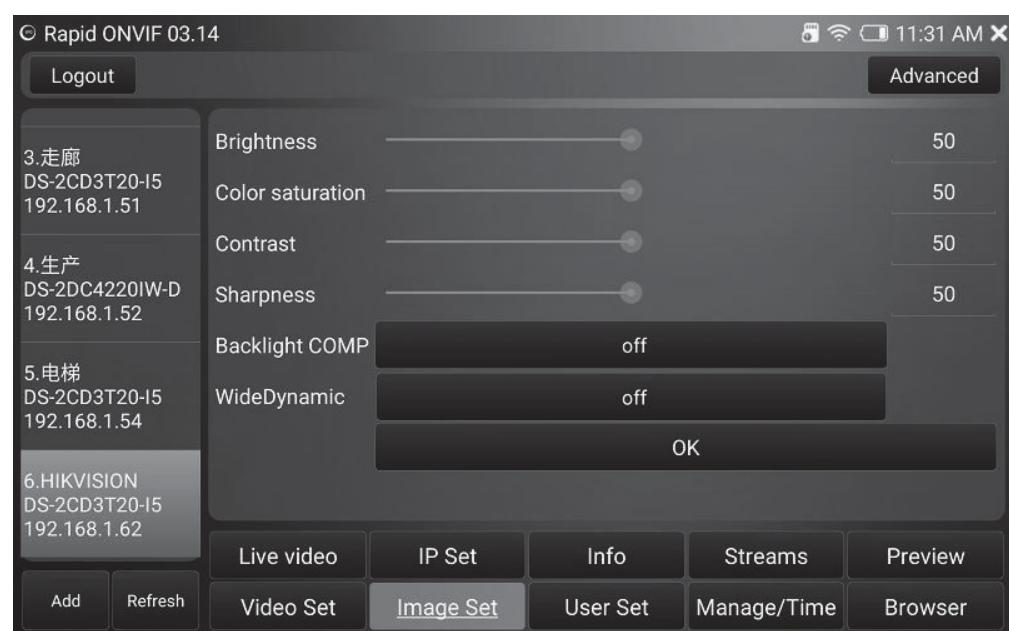

Figure 22
6) Image setting, touch ‘Image Set’ button to enter image setting interface, you can set the image parameters including brightness, saturation, contrast ratio, sharpness, etc, after setting touch ‘OK’ button to apply settings, as shown in Figure 22